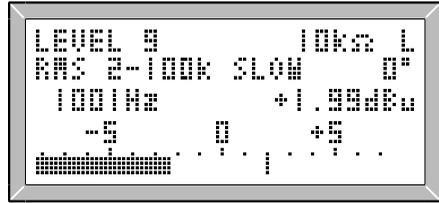

Fig. 2.24 Peak Hold
**[\*]PKH** toggles a peak hold function on the LA102. The numerical display is held briefly and a marker appears on the bar graph (fig. 2.24). This is always switched in automatically on W&F.